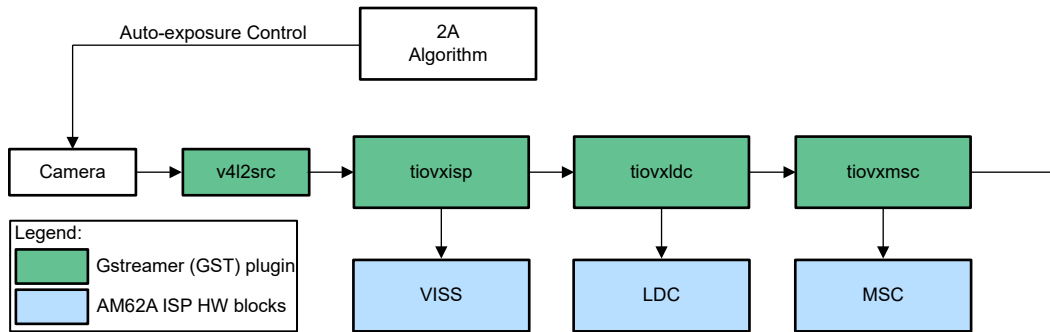

Figure 5-1. AM6xA Image Processing Pipeline
Figure 5-1 shows the image processing pipeline software architecture for AM6xA, including the camera capture subsystem and ISP. The camera capture driver runs in Linux on the A53 or A72 core, and the ISP driver runs in RTOS on the R5 core. Though running on different CPU cores, camera capture and ISP can be interfaced with and integrated by the same framework of GStreamer or TIOVX.
- Adding the exposure setting for that sensor, which is needed by the auto exposure and auto white balance (2A) algorithm as shown in Figure 5-1.
As Figure 5-1 shows, the exposure of the camera sensor is automatically controlled by the 2A algorithm. The 2A algorithm adjusts the exposure based on the H3A statistics provided by the ISP. Both the exposure time and gain can be adjusted by the 2A algorithm. Every sensor has a minimum and maximum exposure time and gain operated from within. These specifications are found in the data sheet and need to be passed to the 2A algorithm through the VISS plug-in. A new function needs to be added to provide this information to the 2A algorithm. This function is usually named `get_<sensor>_ae_dyn_params()` in `gsttiovxisp.c`.